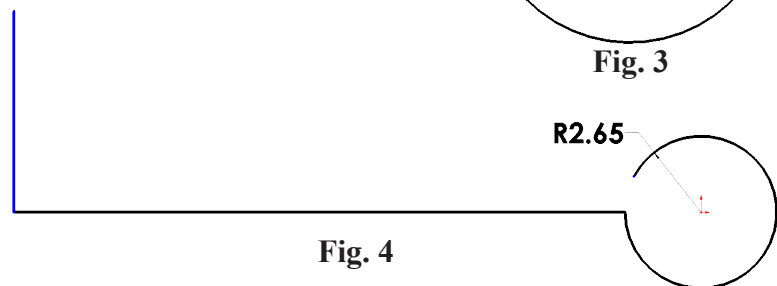

Fig. 4
Step 7. Click **Line**  (L) on the Sketch toolbar.
Step 8. Sketch **2 lines**, **Fig. 4**. Sketch tline from the arc endpoint that is directly to left of Origin.